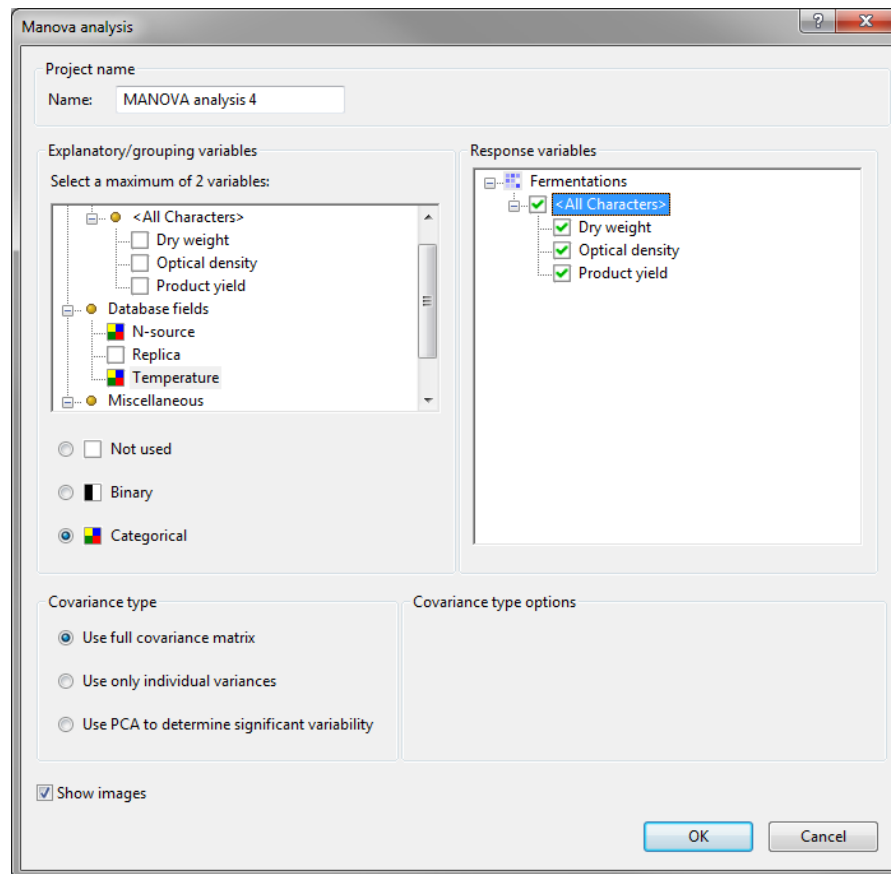

Figure 5: The *Manova analysis* dialog box.
The *Manova analysis* dialog box pops up (Figure 5).
2. In the *Manova analysis* dialog box, select "N-source" and "Temperature" as categorical **Explanatory variables** and select all characters of the **Fermentations** character type as **Response variables** (see Figure 5).